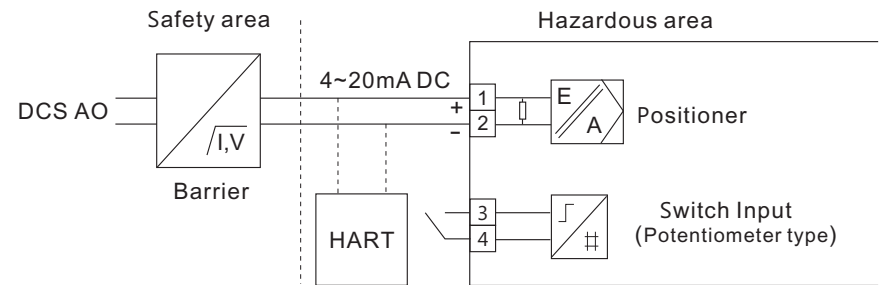

Fig 4-10 : Input electrical connection
4.4.3.1 Input electrical connection (Fig 4-10)